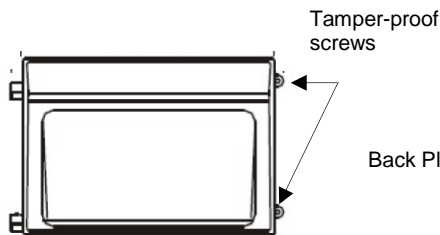

Figure 1
1. Open the fixture by loosening the tamper-proof screws on the side (See Fig. 1) and open the front housing. (See Fig. 2)